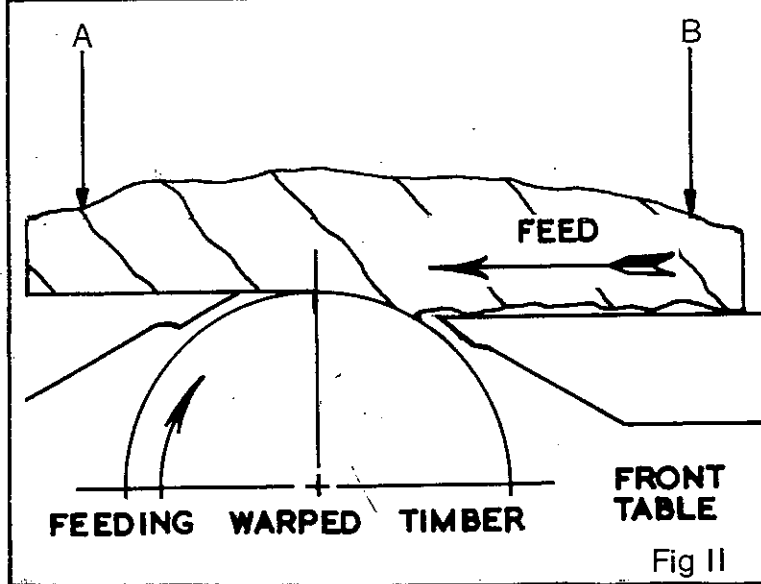

Fig 11
2. To obtain a perfectly flat surface especially with warped stock, always put maximum pressure on the back table at "A" in Fig. 11 and as little as possible on the front table at "B".